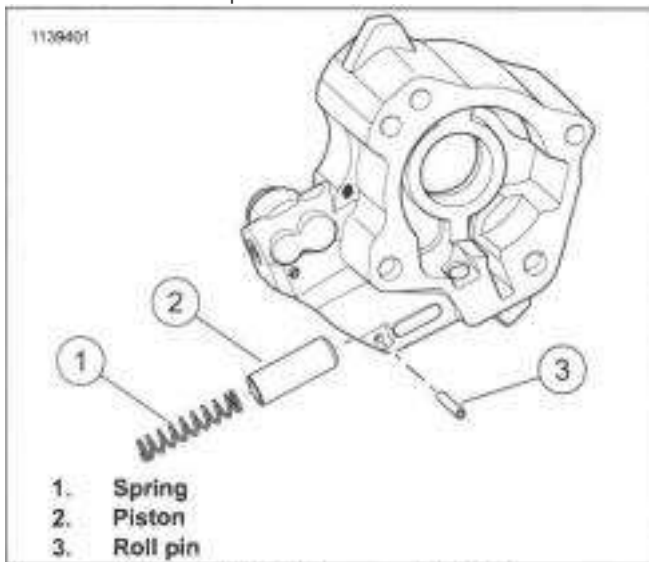

Figure 4-59. Oil Pressure Relief Valve
2. See Figure 4-59. Remove pressure relief valve.
- a. Hold spring (1) compressed.
- b. Drive out roll pin (3).
- d. Remove spring and piston (2).
- a. See Figure 4-59 . Apply assembly lube to piston (2) and bore.